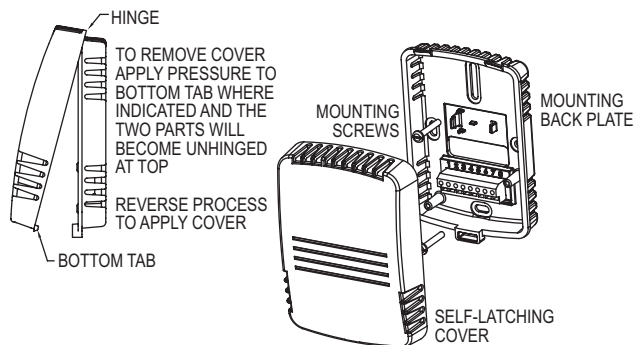

Figure 1: Removal Of Cover From Back Plate
1. Push tab on bottom of cover and lift cover from back plate (See Figure 1).
- Step 1: Remove the cover as shown in Figure 1.